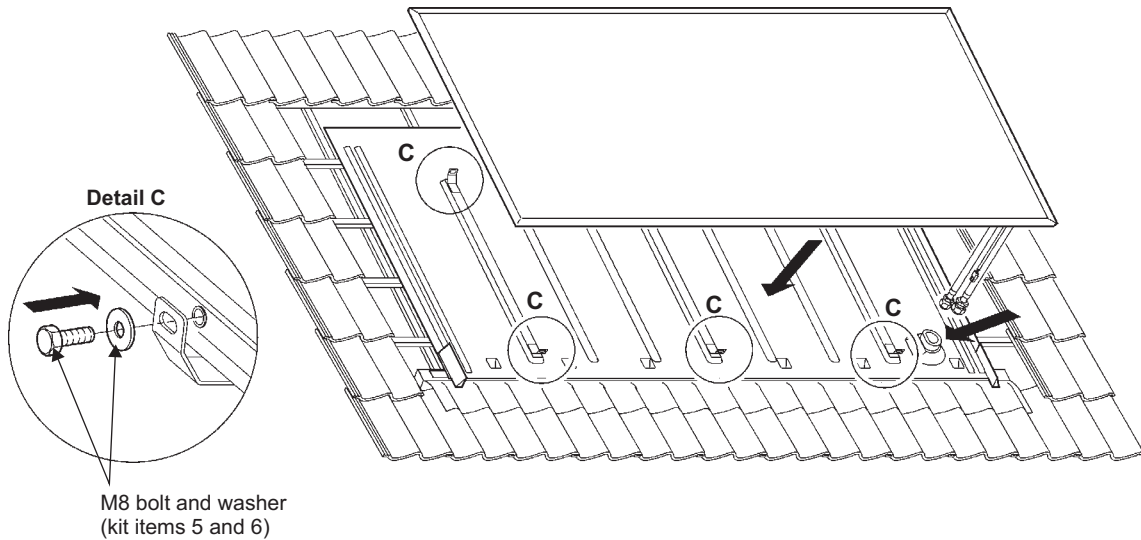

Fig. 14 - Secure the collector
- Place the top edge of the collector into position, guide the collector pipes and sensor cable through the boss on the flashing sheet and into the roof space as shown in Fig. 14, whilst lowering the bottom edge of the collector into position. Make sure that the foam rubber seal around the pipe boss is held firmly between the collector and the flashing sheet. Secure the collector to the mounting plates on the flashing sheet using the six M8 bolts and washers supplied (kit items 5 and 6) as shown in detail 'C' in Fig. 14. Tighten all six bolts.